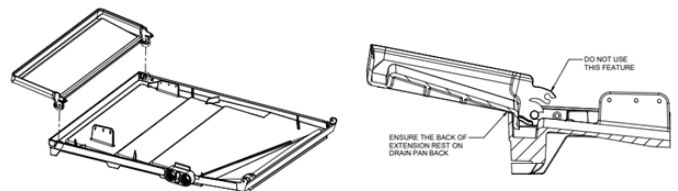

Figure 4A
- A drain pan extension is shipped with coil in the accessory kit box (Figure 4A). This extension is to be used only for horizontal left application used only for higher than normal humid application. **During horizontal right application, this Drain Pan Extension**